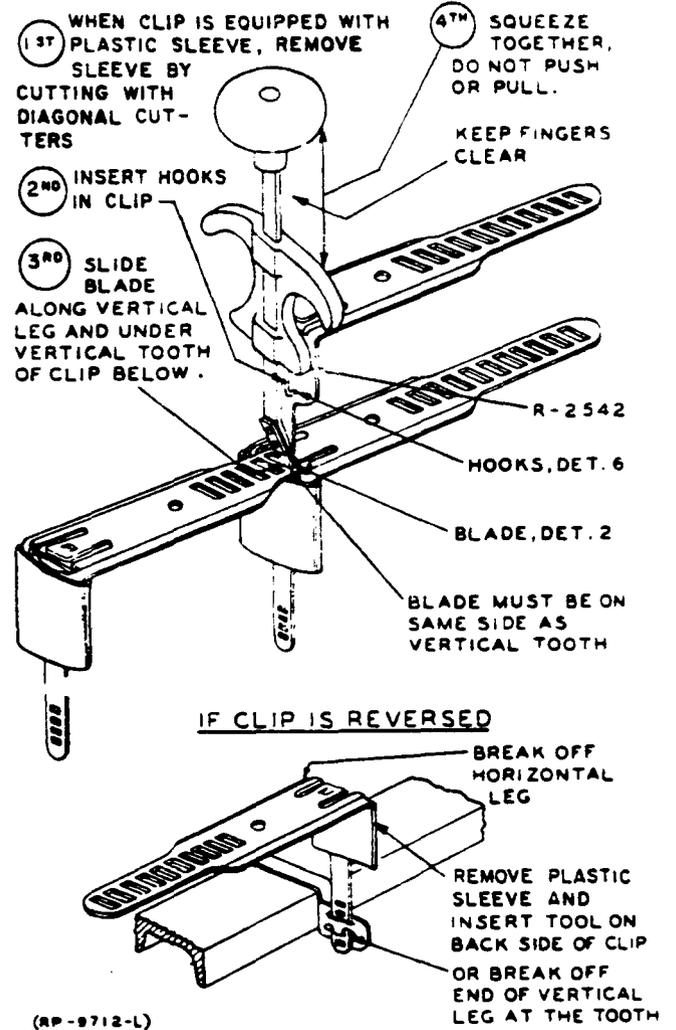

FIG. 7 REMOVING START AND REGULAR CLIPS (PARS. 4.11, 4.21)
4.11 Remove clips using cable clip remover, R-2542, as illustrated in Figure 7.
4.21 Clips in reverse position such as the regular clip used with a start clip, cannot be removed by the clip remover tool. These clips are removed as indicated in Figure 7.